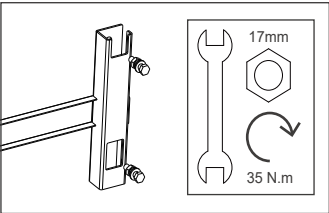

Fig. 2.2 Mounting of inverter rack
- 1 Refer to Figure 2.2 installing the inverter rack.